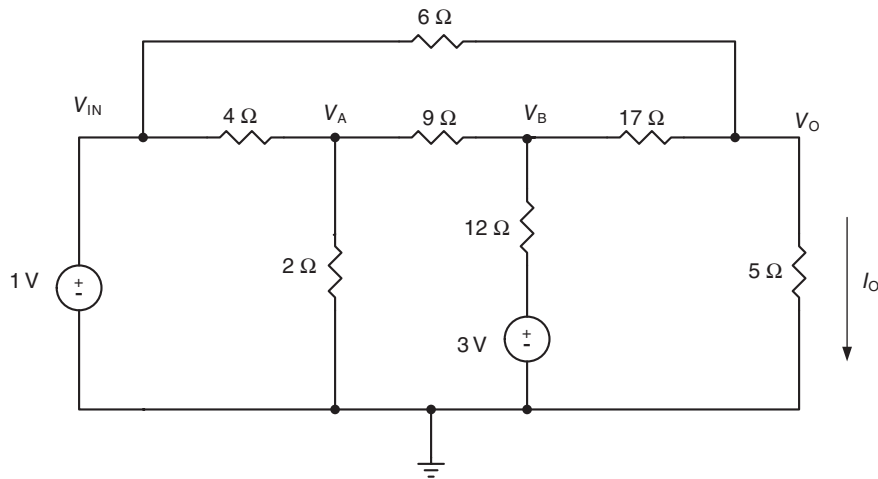

Figure 1.15. Circuit for Problems 1.7 and 1.8.
1.7 Determine current I_O in the circuit of Figure 1.15 using mesh analysis.
1.8 Determine total power dissipation in the circuit of Figure 1.15.